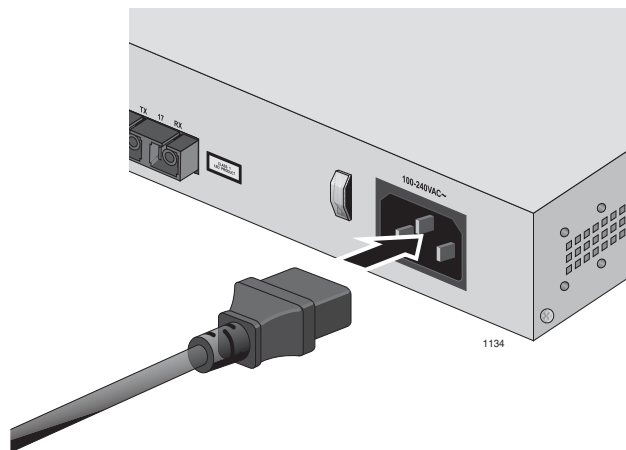

Figure 17. Connecting AC Power Connector to a Switch
1. Apply AC power to the switch by plugging the power cord into the AC power connector on the back panel of the unit, as shown in Figure 17.